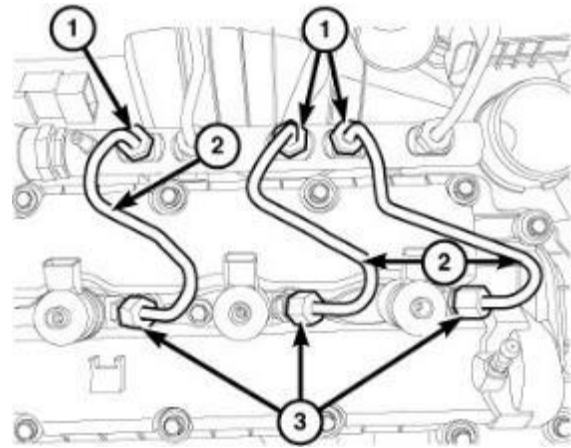

Figure 32 – Fuel Tubes (Left Side Shown, Right Side Similar)
17. Unscrew the union nuts (1 and 3) and remove and discard the left and right-side fuel tubes (2) (Figure 32).